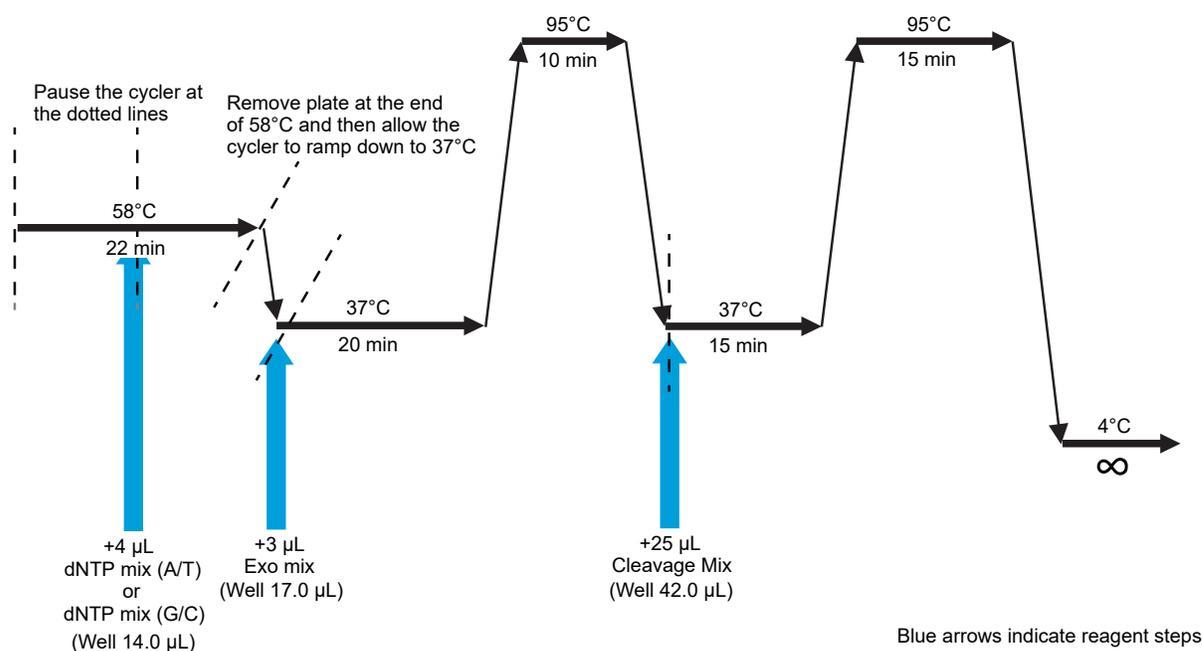

Figure 46 OncoScan Gap Fill thermal cycler protocol (Veriti™ firmware less than v2.0.4).
**IMPORTANT!** This protocol combines the first two 58°C incubations into one 22 minutes stage. (Figure 46.)